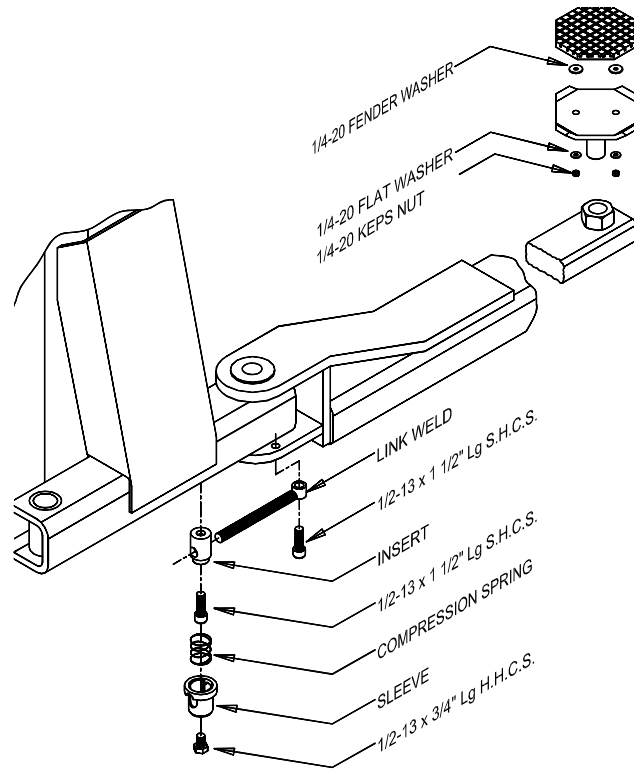

Fig 19
41. Install the arms, rubber inserts, and arm restraints as seen in **Figure 19**. Adjust the arm restraint adjusting bolts so that all four arm restraints are released when the carriages are fully lowered.